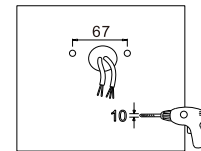

Figure 16
**3. YOKE MOUNTING (YM)**
Step 1: Drill holes on the wall as shown. (Figure 16)